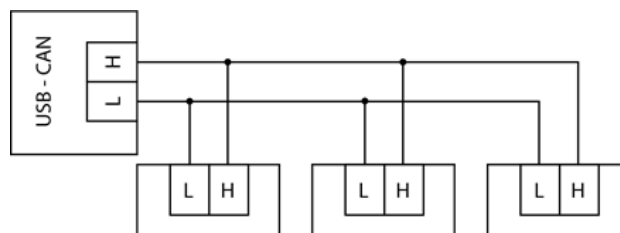
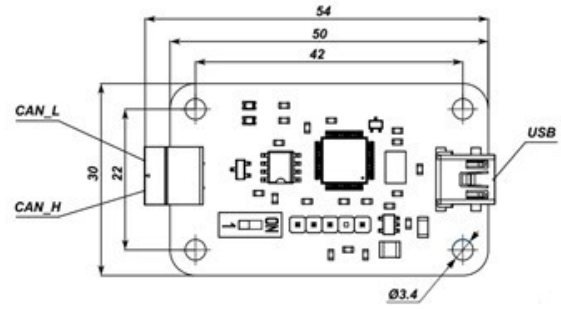

Figure 7: CAN interface connection scheme
Figure 8: USB-CAN hub
2. Connect up to 200 drivers into the CAN network (fig.7) by using the CAN hub (fig. 8).